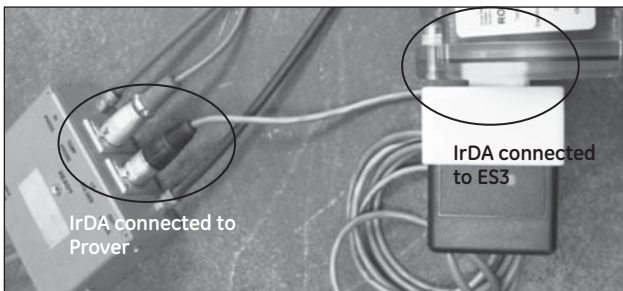

Figure 1 - Connect IrDA to ES3 and Model 5 Prover
- Insert the IrDA adapter in the cover of the ES3, as shown in Figure 1.
- Attach the cable connector of the IrDA to the ID Pulsar connection port on the Prover field meter junction box, as shown in Figure 1.